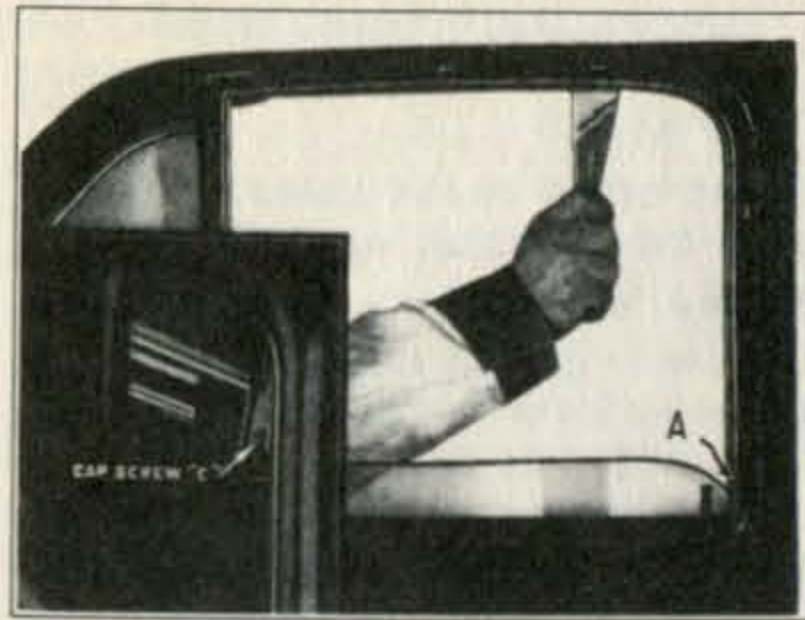

Fig. 25. Front Door Window Run Channel Removal
approximately 3" from division channel. Clip can be removed by inserting thin edged tool such as wood chisel between the outer and upper edge of the door panel and the glass run channel. (See Fig. 25.) Push straight up on chisel to partially collapse prongs of spring clip, then push handle of tool away from body to force clip from door panel. Clips are secured to run channel and enter into pierced holes in door panel.
- Remove small slotted screw "A," Fig. 25, embedded in felt of window run channel just above lower window opening edge on lock pillar side of door.